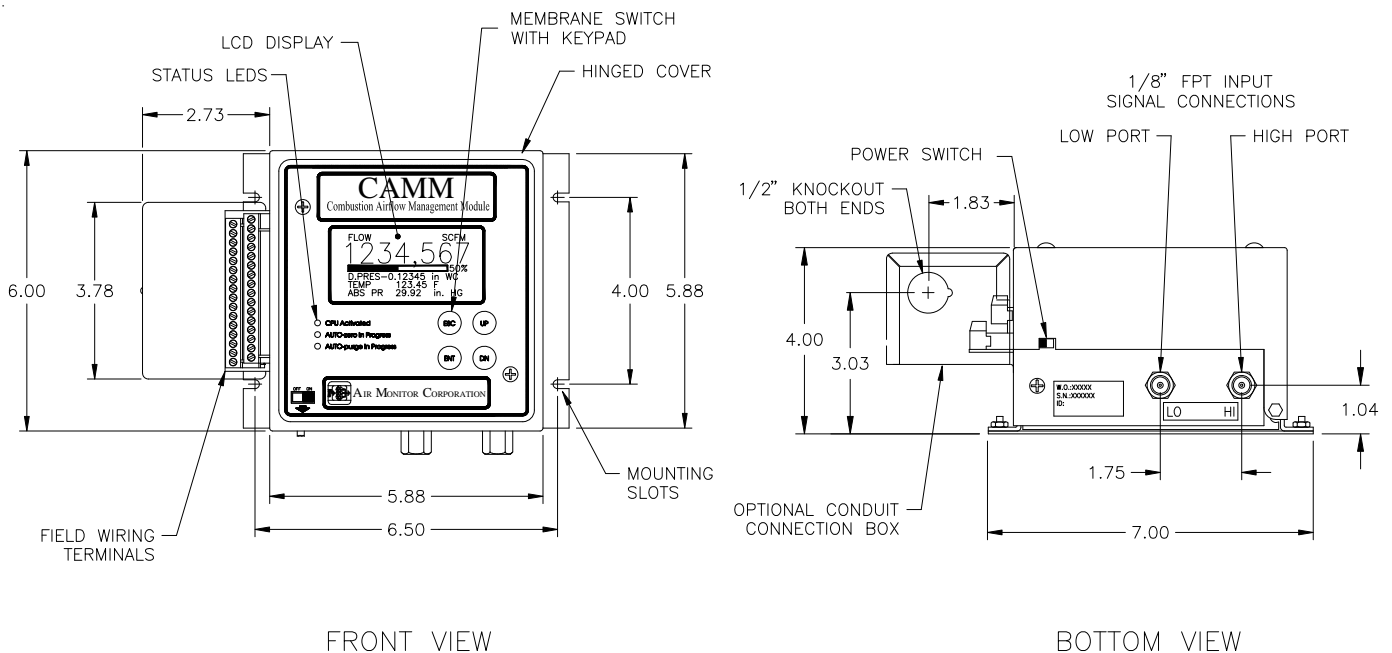

Figure 4.1
When connecting or disconnecting any wiring to the CAMM, the unit's power switch (see Figure 4.1) must be in the OFF position.
1. After Installation has been verified in accordance with Section 4, turn power switch located at the lower left side to the ON position (see Figure 4.1).